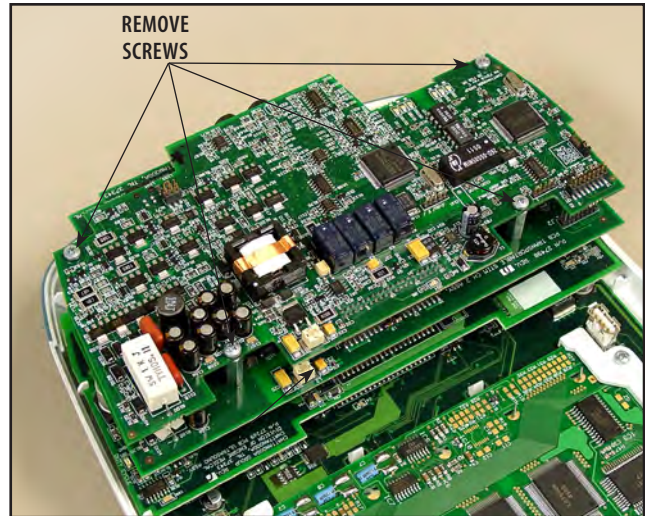

FIGURE 6.10
2. Using the # 1 Phillips Screwdriver, remove the four screws securing Channel 1 Stim Board to the Stand Offs. See Figure 6.10.